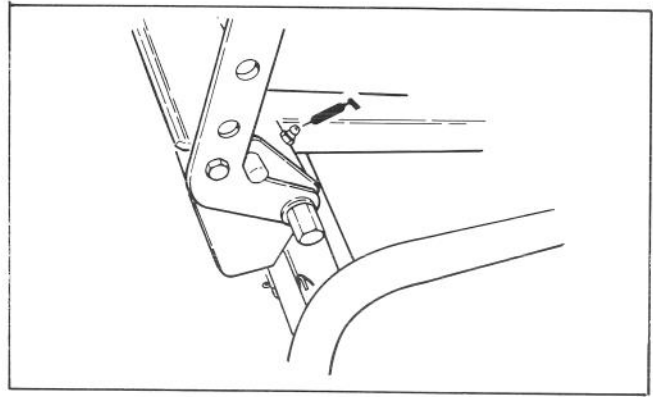
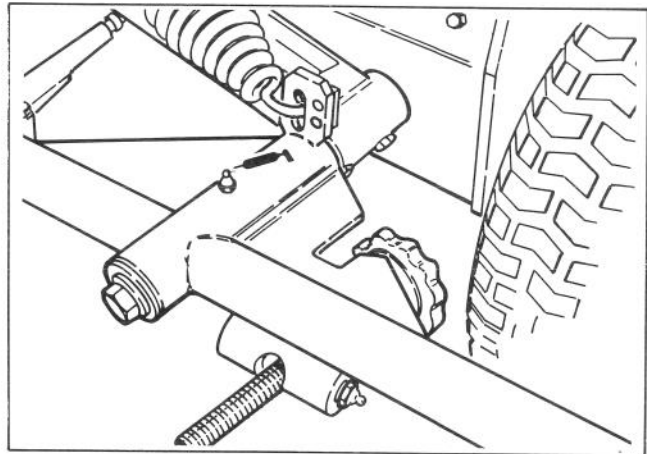
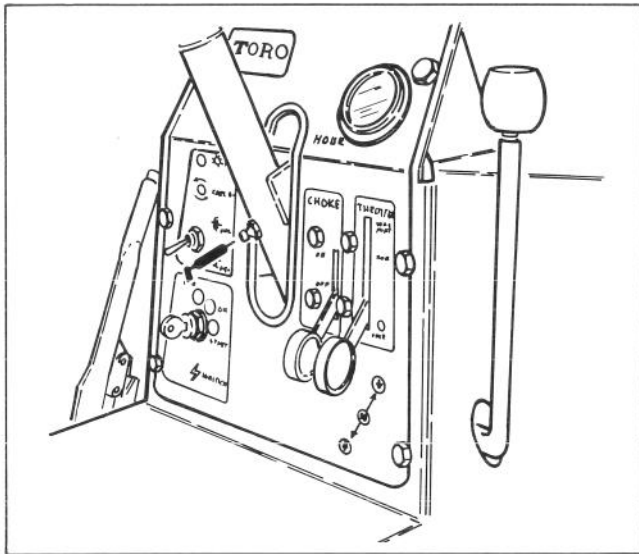
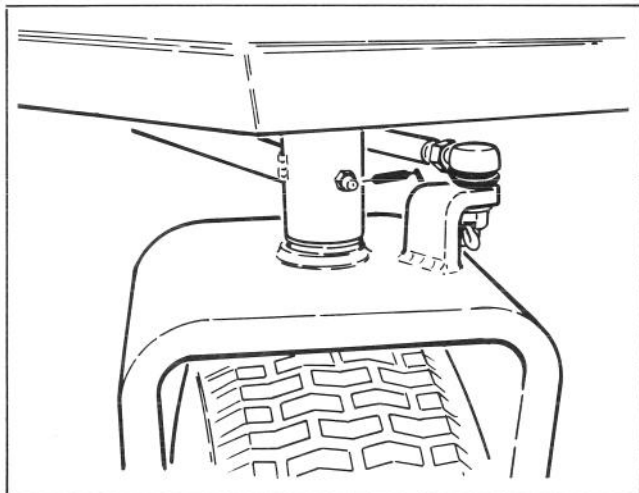

Figure 26
Figure 27
Figure 24
Figure 25
Steering column (Fig. 24), steering shaft (2), rear castor fork (Fig. 25), jackshaft pulley bearing (2), lift arms (3) (Fig. 26) rear axle, and pivot rods (3) (Fig. 27).